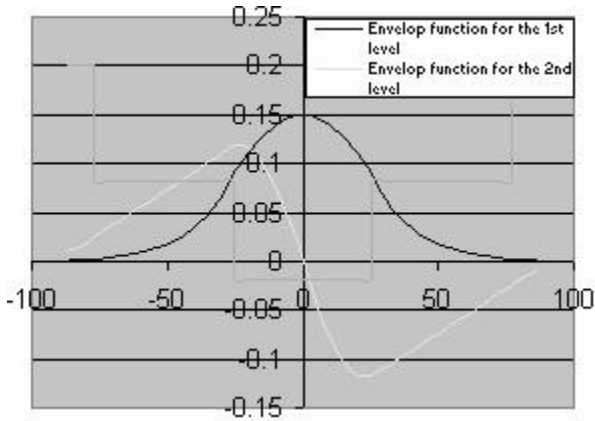
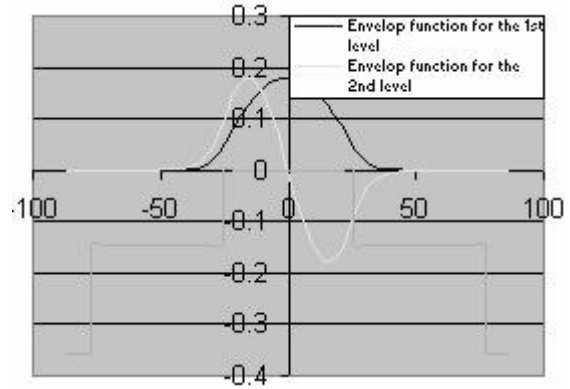
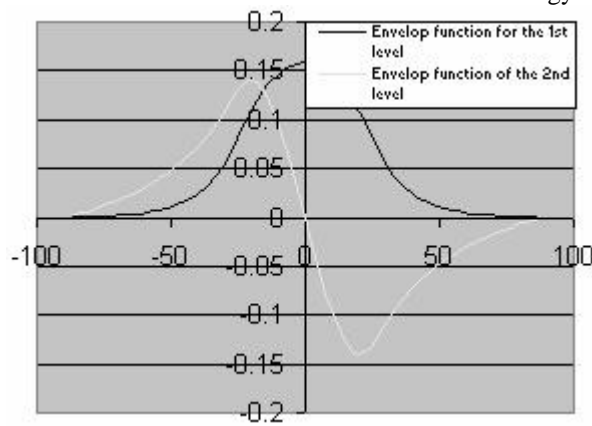

Fig. C.3.2. Wave envelop functions for energy levels in conduction band
Fig. C.3.3. Wave envelop functions for heavy hole energy levels
Fig. C.3.4. Wave envelop functions for light hole energy levels
b) The main output file from this part of GAIN program is energy.dat, containing all the energy levels as shown in Table C.3.5. After the energy eigen values are calculated, the GAIN program asks the user whether he would like to check the wave envelope function or not. We suggest that the user check the wave envelope functions of the first and second energy levels for conduction and valence bands. The plots of the envelope functions are shown in Fig. C.3.2, Fig. C.3.3, Fig C.3.4.